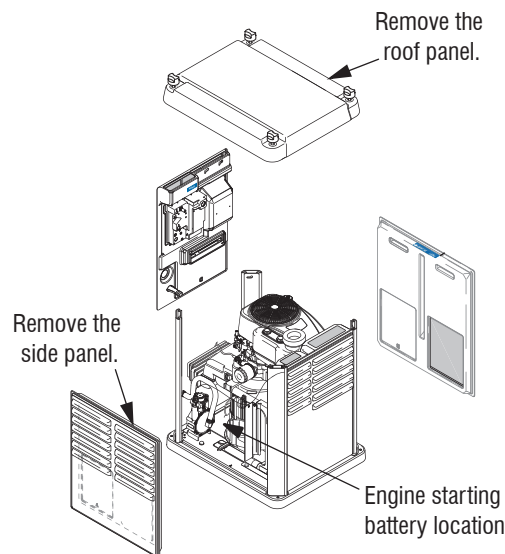

Figure 1
2. Remove the side panel. Remove the NEGATIVE (-) battery cable first and then the POSITIVE (+) battery cable from the battery. Remove the battery from the unit (Figure 1). Using a clean towel, wipe the bottom of the battery to remove any dirt, oil or contaminants.